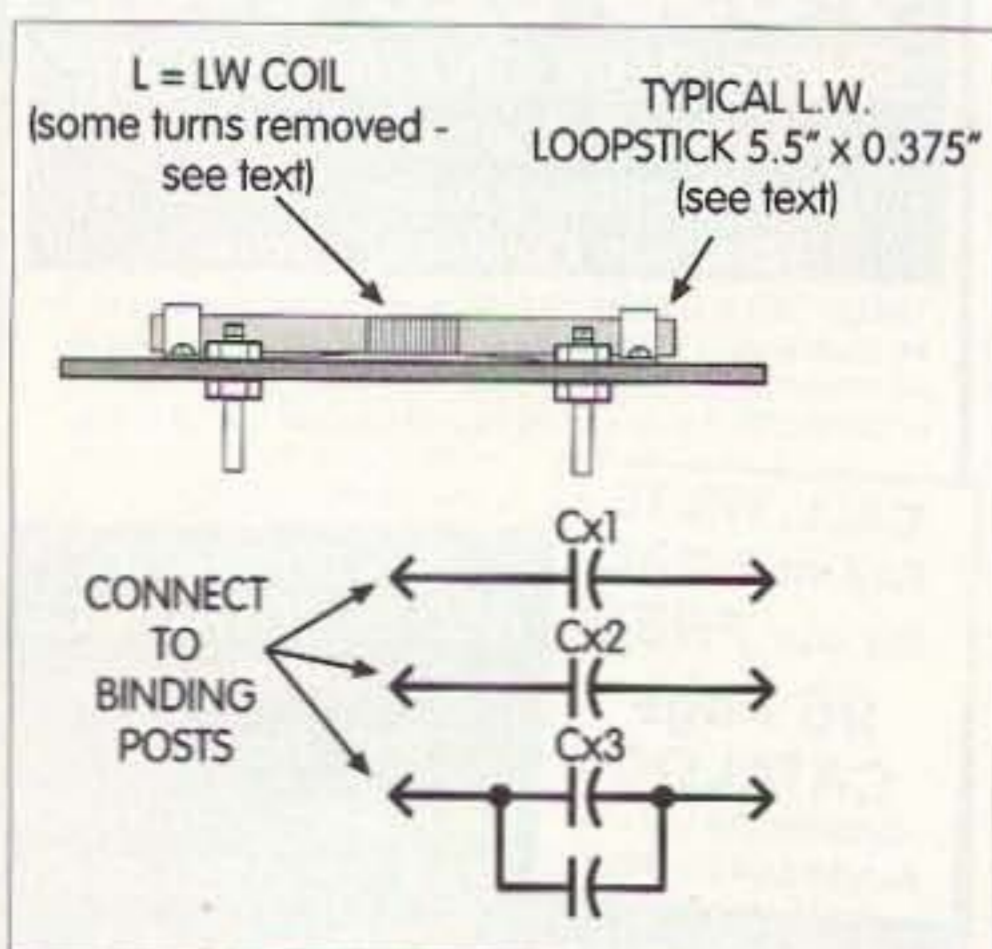

Fig. 7. LF loop — 55 kHz–550 kHz.
The LF (long wave) loop — 150–550 kHz (see Fig. 7)
55 kHz–170 kHz (see Fig. 7)
3. The total frequency range is shown as 55 kHz–40 MHz. The LF end was fixed to incorporate the UK Rugby MSF 60 kHz Time & Frequency Standard station, which comes in very loud and clear. A similar station in the USA is WWVB in Denver, Colorado, which also uses 60 kHz. The frequency range could be further lowered by addition of extra capacity across the LF Loop (Fig. 7).